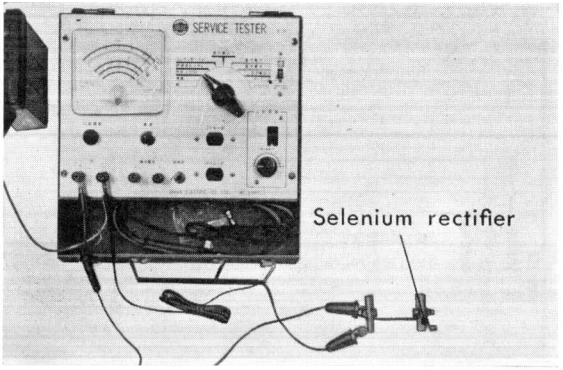

Figure 5-39. Connecting the test leads
- (1) Use service tester.
- (2) Test procedure
- c. Short across the ⊕ and ⊖ leads of the tester and regulate the adjuster knob so that the tester indicator needle is pointing to "0" on the "Resistance × 100" scale. (Fig. 5-39)
- (3) Inspecting the selenium rectifier